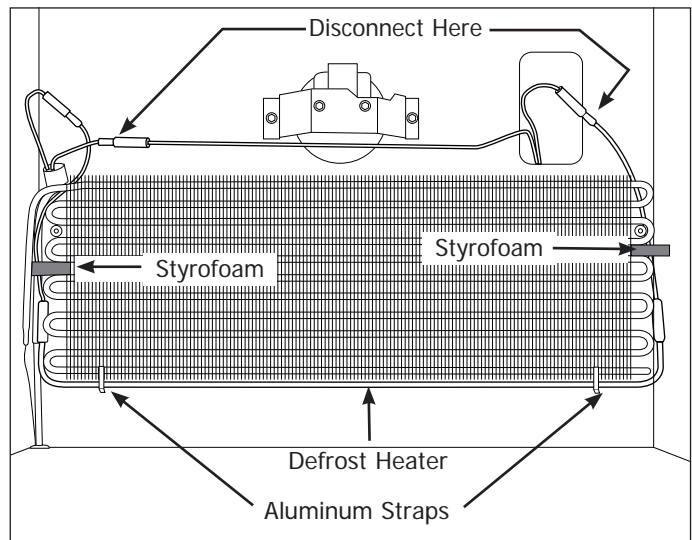

Figure 5-20. Defrost Heater Removal
5. Disconnect the defrost heater wire leads from the wire harness. (See Figure 5-20)